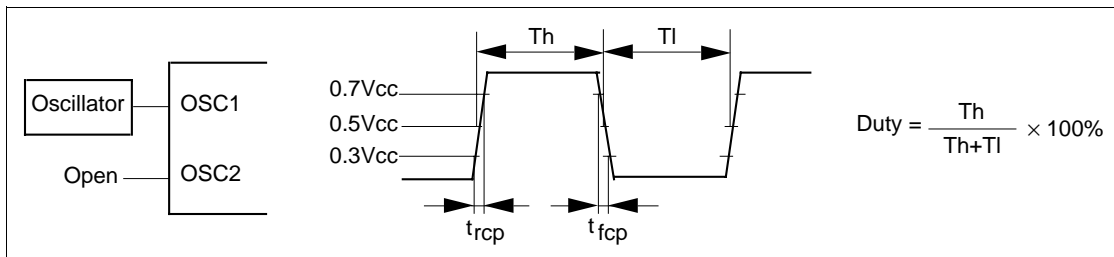

Figure 61 External Clock Supply
- 13. Applies to the external clock input (figure 61).